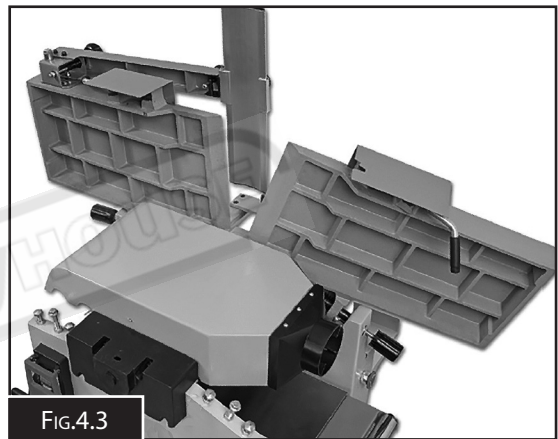

FIG.4.3
2. Rotate the dust extraction hood until it's in the correct position. (Fig.4.3)